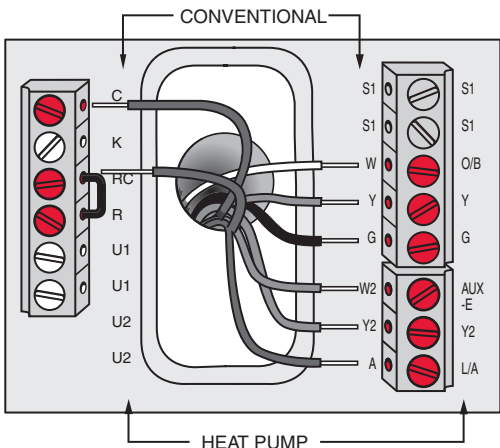

Fig. 19. Thermostat wired directly to equipment.
1. Refer to Fig. 19. See Table 11 on page 119 for terminal designations and “Wiring” beginning on page 118 for more information.